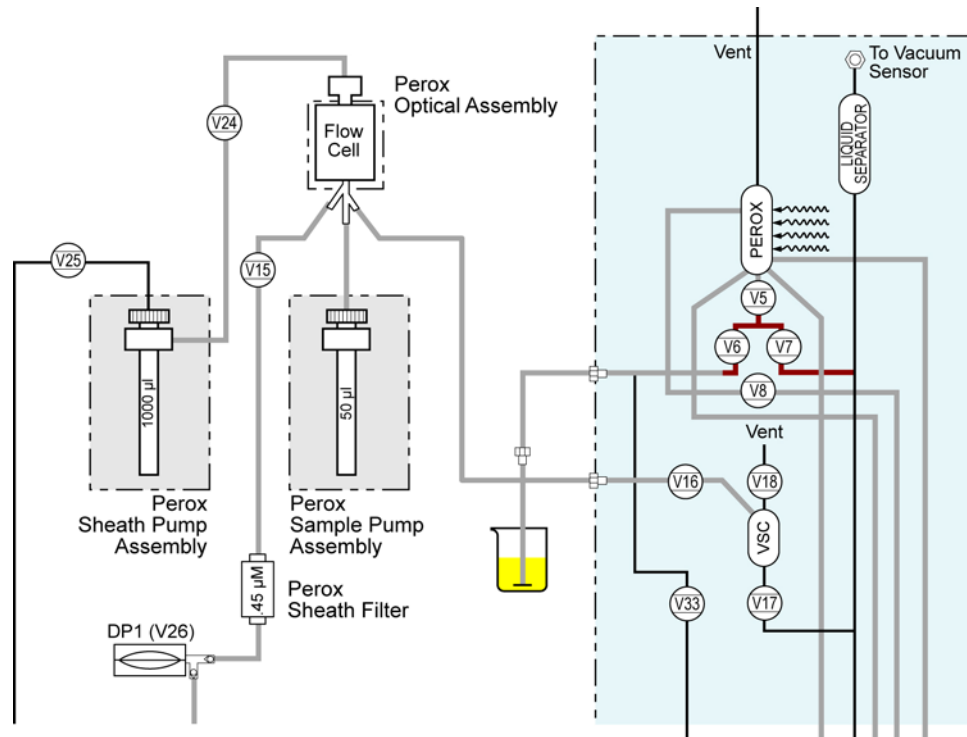

Figure 6. Teflon line from the Perox sample syringe in a beaker of EZ WASH
10. Try to aspirate EZ WASH from a beaker. See **Figure 6**.